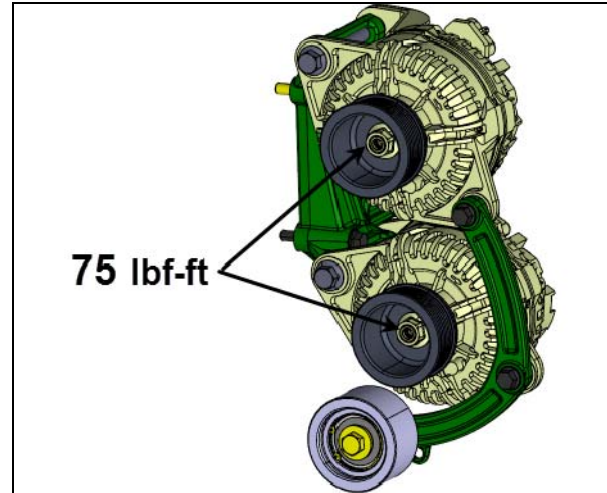

FIGURE 21
11. Mount pulley onto alternators (**FIGURE 21**). Use Loctite 243 blue on threads. Tighten pulley mounting nut to **75 lbf-ft** using Prevost tool and a M10 12-points spline drive mounted on a torque wrench (refer to the end of this document for details concerning special tools). Once properly torqued, apply yellow torque seal.